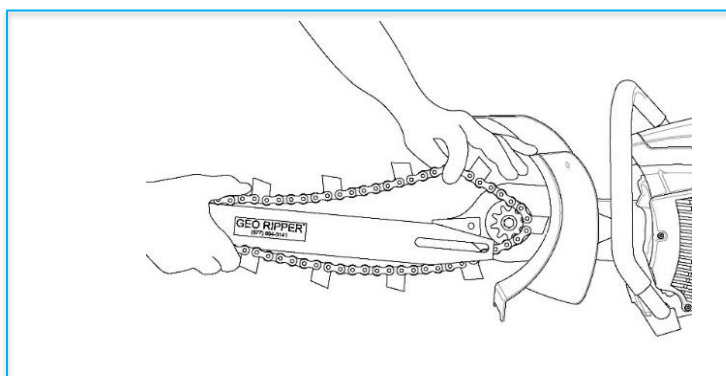

Fig.10
4. Install the chain over the bar and loop over the drive sprocket (Fig.10)